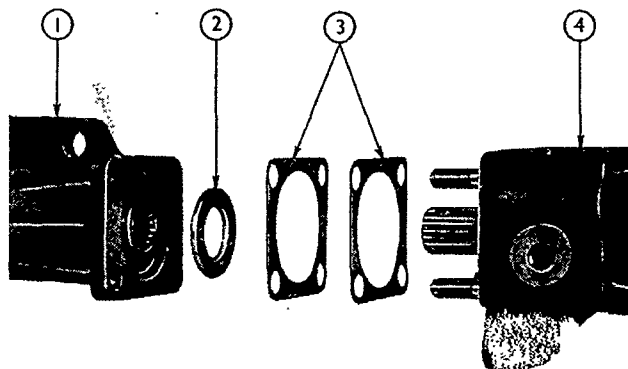

Figure 8
5. Unscrew the four nuts retaining the steering shaft housing to the valve housing and remove the shaft housing, shaft assembly, adjusting shims and lower thrust washer from the valve housing as shown in Figure 8.